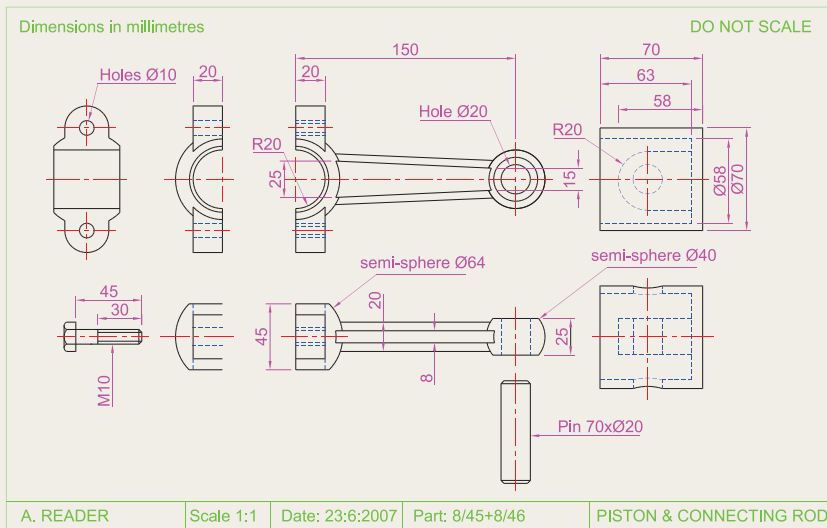

Fig. 11.15 Exercise 1 – exploded orthographic projection
- Figure 11.15 shows an exploded orthographic projection of the parts of a piston and its connecting rod. There are four parts in the assembly. Small drawings of the required sheet set are shown in Fig. 11.17. Construct
the drawing shown in Fig. 11.15 and also the four drawings of its parts. Save each of the drawings in a **Layout1** format and construct the sheet set which contains the five drawings.